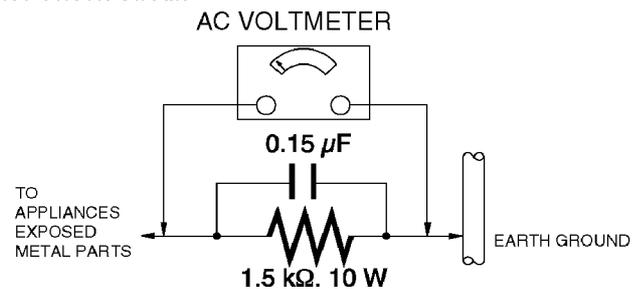

Figure. 1
| 1.3. Leakage Current Hot Check (See Figure 1.) .....  | 3         |
## 1.3. Leakage Current Hot Check (See Figure 1.)
2. Connect a  $1.5\text{ k}\Omega$ ,  $10\text{ W}$  resistor, in parallel with a  $0.15\text{ }\mu\text{F}$  capacitor, between each exposed metallic part on the set and a good earth ground, as shown in Figure 1.